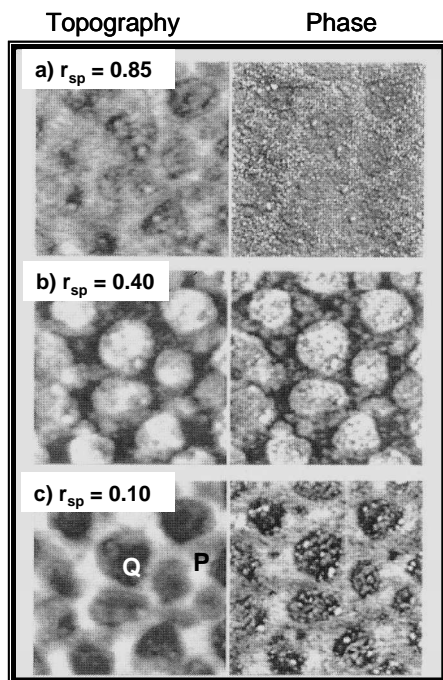
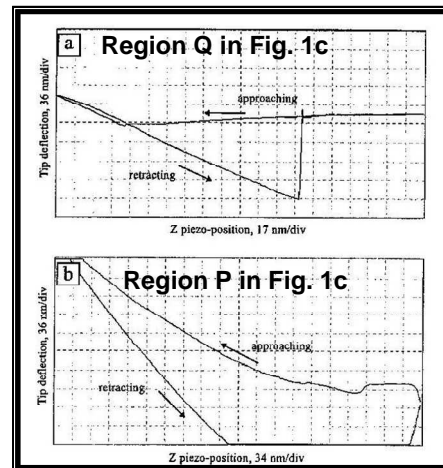
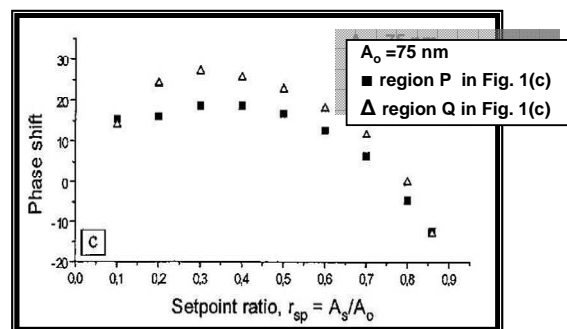

Figure 1:  $A_0=75$  nm;  $1.8 \mu\text{m} \times 1.8 \mu\text{m}$
Figure 2
Figure 3
Figure 1 reproduces three topographic (left) and three phase (right) images of this new polymer film deposited on a glass substrate. The authors state each image is  $1.8 \mu\text{m} \times 1.8 \mu\text{m}$ . The authors state the polymeric films are several microns thick. The authors state that when obtaining these images, the unconstrained cantilever amplitude is  $A_0=75 \text{ nm}$ . The set point ratio ( $r_{sp} = A/A_0$ ) used to acquire each image is specified. The authors also state the height contrast covers height variations in the 5 nm range for Figs. 1(a) and 1(b), while height variations in the 10 nm range are found when acquiring the image in Fig. 1(c). The authors state the force constant of the cantilevers used in the study were in the range of 13-70 N/m.
There seems to be a clear contrast observed both in topography and phase, allowing the authors to specify two distinct regions, P and Q, as marked in Fig. 1(c). But the authors are confused. They decide to perform additional experiments. A static force distance study is performed. The authors state that cantilevers with force constant in the range of 0.02 – 0.7 N/m are used. The results are plotted in Fig. 2.
Finally, the authors performed measurements of the phase shift as a function of the set point ratio,  $r_{sp}$ . The results are plotted in Fig. 3 for the two regions marked P and Q in Fig. 1(c).
- b) In Figs 1(b) and 1(c), there seems to be clear contrast in both topography and phase, providing evidence that the sample is indeed comprised of two distinct polymer phases. Why is the contrast greatly diminished in Fig. 1(a)? Justify your answer.
- c) The authors are confused by the images presented in Fig. 1. Why do you think they are confused?
- d) Assuming the authors correctly measured the height variations, why do you think the height variation in Fig. 1(c) is about a factor of 2 greater than the height variation in Figs. 1(a) and 1(b)? Justify your answer.
- g) What is the approximate phase difference between the dark and bright regions in Fig. 1(c)? Explain how you arrived at your answer.
- h) Does the phase variation with set-point plotted in Fig. 3 make sense? Run a VEDA simulation to justify your answer to this question. Specify the parameters that you use when running this simulation.